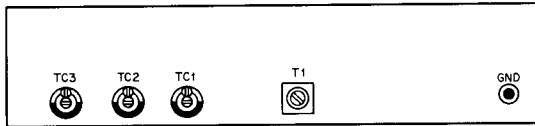
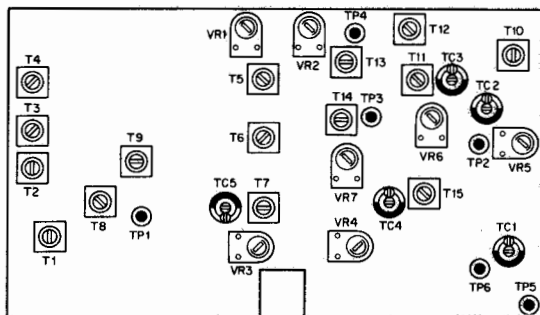
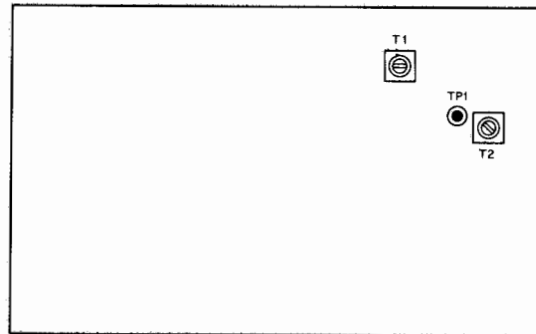

Fig. 21 CAR unit
Fig. 24 IF unit
Fig. 25 RF unit
- 1) Connect RF VTVM to TP5 in IF unit (X48-1150-00) and adjust oscillation coil T1 in CAR-1 unit (X50-1310-00) until the meter reads 50mV (refer to Fig. 21). (refer to Fig. 24 IF unit)
- 2) Adjust T1 to T7 in IF unit (X48-1150-00) and T2 in RF unit (X44-1150-00) until S meter reads maximum value (refer to Fig. 24 and Fig. 25).
- 2) Turn the RF GAIN knob fully counterclockwise and adjust VR3 and TC5 in IF unit (X48-1150-00) alternately until the output becomes minimum (refer to Fig. 24).
- 1) After receiving marker signal and turning ON NB switch, adjust T8 and T9 until the terminal voltage at TP1 on IF unit (X48-1150-00) becomes minimum (refer to Fig. 24).
- 1) After adjusting each section until sensitivity becomes minimum, adjust VR1 in IF unit (X48-1150-00) under no signal condition, thus making zero point adjustment of S meter (refer to Fig. 24).
- 1) Connect RF VTVM to TP6 in IF unit (X48-1150-00) and adjust TC1 in IF unit for 0.1V (refer to **Fig. 24**).